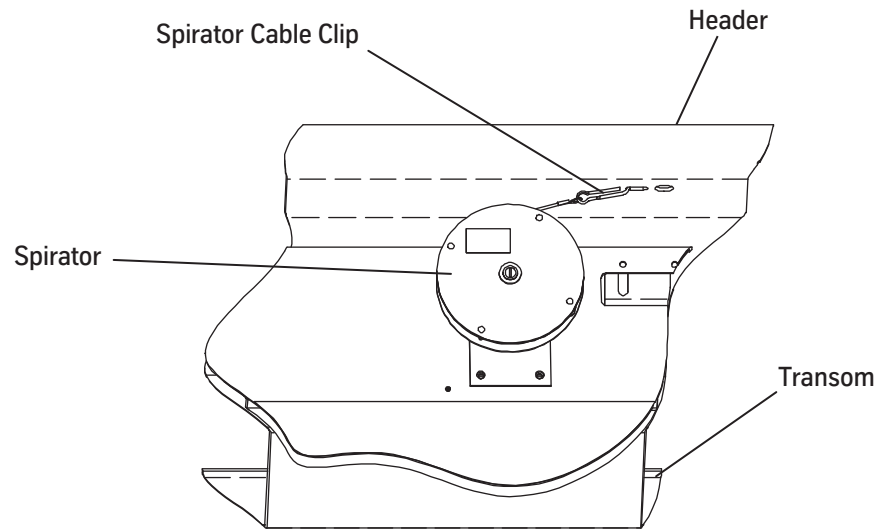

Figure 64 - Spirator
2. Use the spirator cable clip to attach the cable to the header. See Figure 64.